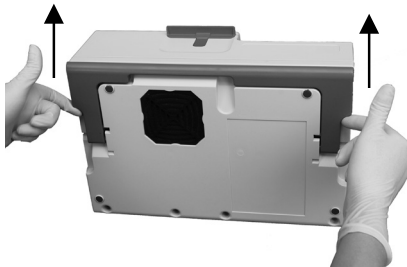

Fig. 1-12 Carrying Handle
- To extend the handle to carrying position, place the analyzer on its back and position your fingers in the cutouts on each side of the handle. Push up until the handle is fully extended (Fig. 1-12).